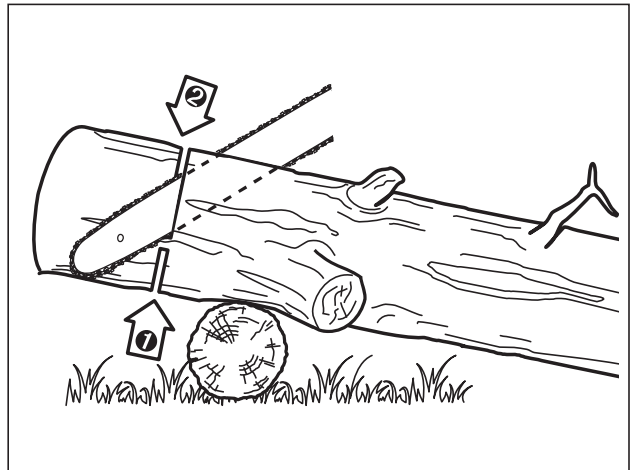

Fig. 25
2. When the log is supported on one end, cut 1/3 the diameter from the underside (underbuck). Then make the finished cut by overbucking to meet the first cut (Fig.25).